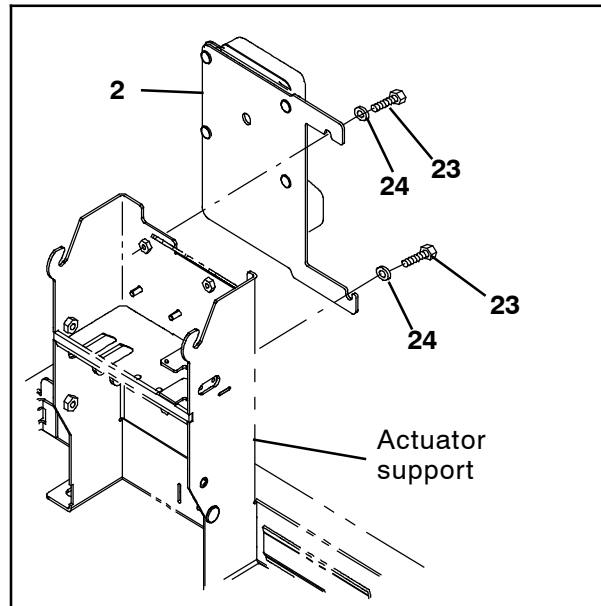

Fig. 19
15. Use two M6 hex screws (23) and two flat washers (24) to install the telemetry control box / module bracket (2) onto the actuator support. (Fig. 19). Partially thread top screw in first, attach module bracket then add bottom screw. Tighten screws.